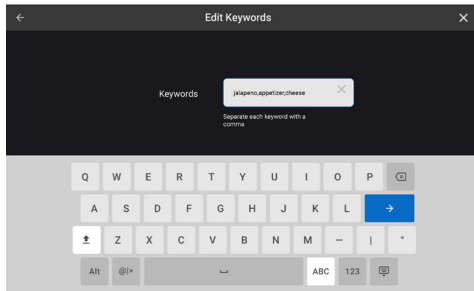

Figure 32: New Recipe Keywords
- Input keywords for the search option and touch the blue arrow button to continue (Figure 32).